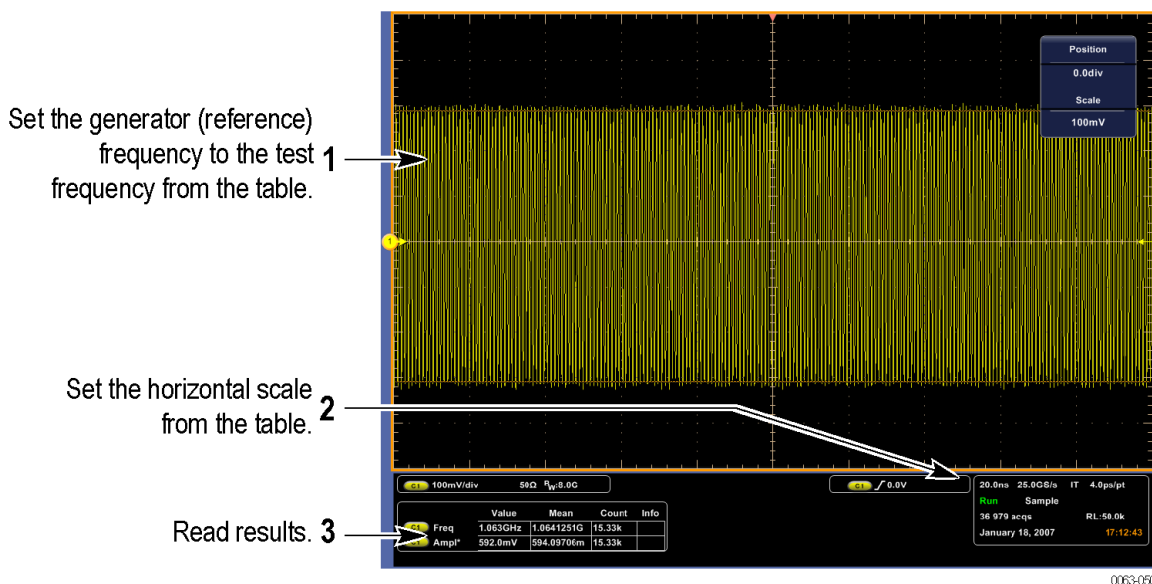

Figure 23: Measurement of analog bandwidth
- All instruments except the MSO/DPO71254C and MSO/DPO72504DX: Read the results at the Chx Amplitude mean readout, which will automatically measure the amplitude of the test signal. (See Figure 23: Measurement of analog bandwidth on page 236.)